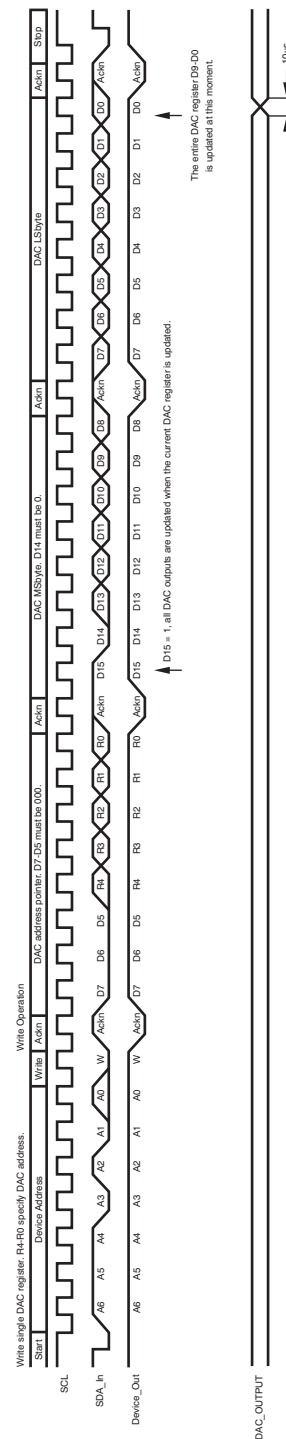

Figure 11. Write DAC\_OUT Register Timing
**Method 1:** Method 1 is used when it is desirable to have the DAC output voltage change immediately after writing to a DAC register. For each write transaction, the master sets data bit 15 to a '1'. The DAC output voltage update occurs after receiving the 16th data bit for the currently-written register, as shown in Figure 11.